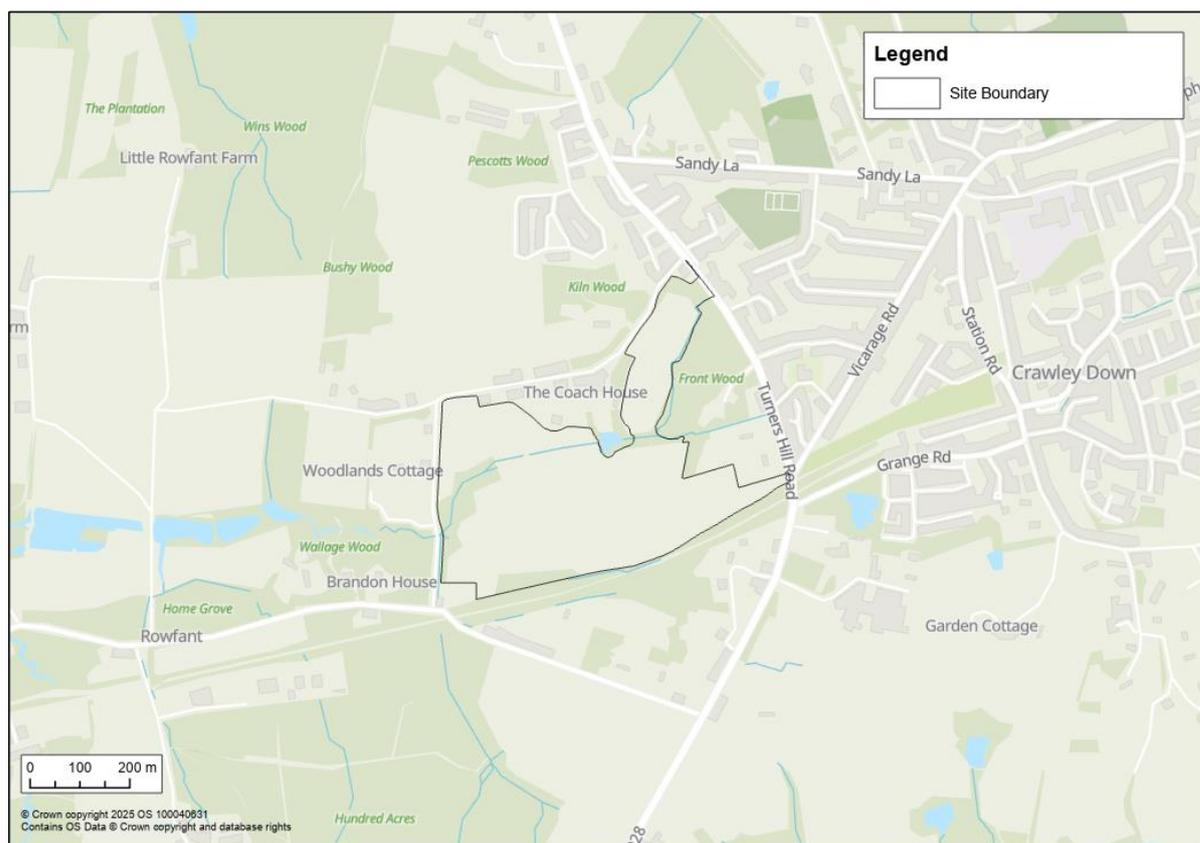

Figure 1: Site Boundary
- 2.1 The site is located in Crawley Down adjacent to Turners Hill Road (B2028). It is centred on approximate OS Eastings/Northings (E/N): 533798E, 137341N at postcode RH10 4HB (Figure 1).